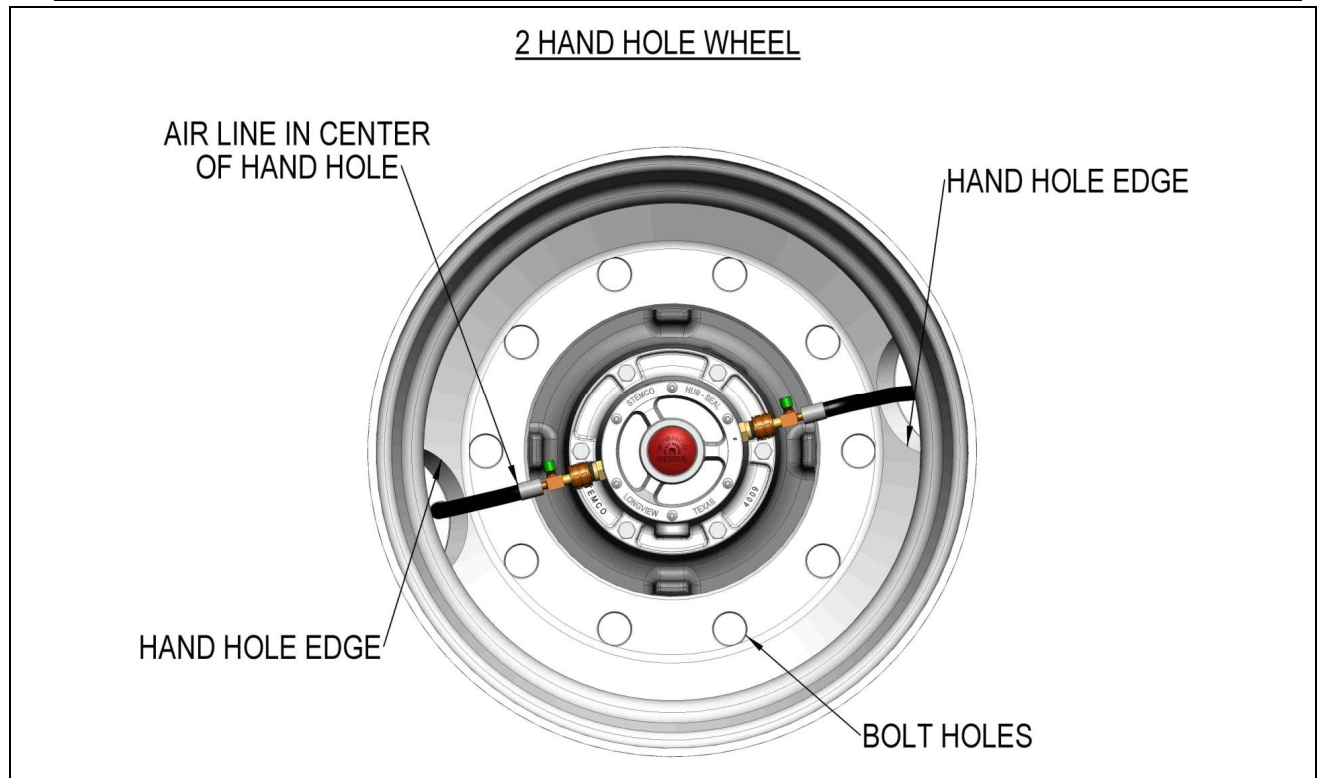

Figure 11
- Dual wheels with 2 hand holes, or aluminum wheels with small round valve stem clearance holes require a second alignment procedure to ensure the hoses will not touch the wheel. To ensure perfect alignment between the hose attachment fittings on the hubcap and valve stems, the wheels may need to be rotated one stud clockwise or counterclockwise. See Figure 11.